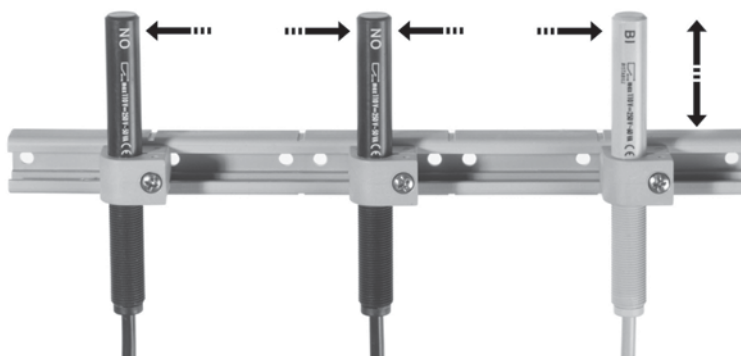

FIG. 2
*STEM is suitable to supply a **preassembled lift control system** according to customer s specific requests; particularly distances X, Y, concerning the configuration shown in figure 1, and distances X1, X2, Y concerning the configuration shown in figure 2, are adjustable.*